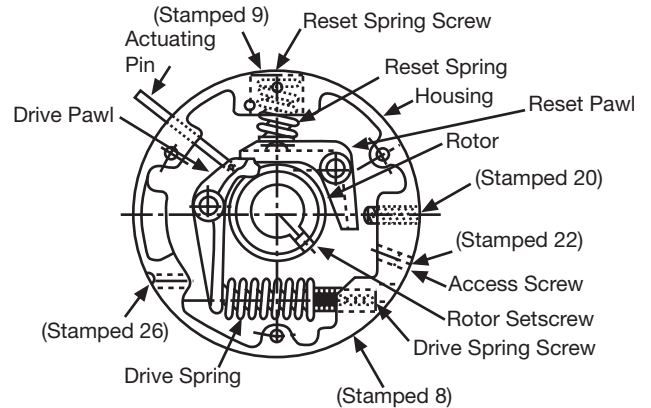

Figure 4 - Clutch Internal Components
- a. After the overload condition has been corrected, rotate the drive until the rotor keyway is in alignment with the hole stamped 22 located on the outside diameter of the housing. (See Figure 4)
- b. Reset the clutch by inserting a hex wrench into the reset screw shown in Figure 4, and turn the screw clockwise